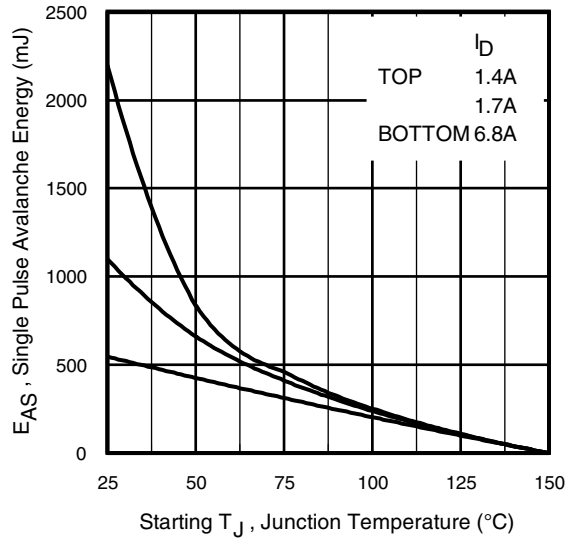

Fig 14. Maximum Avalanche Energy vs. Drain Current
- ② Starting $T_J = 25^\circ\text{C}$, $L = 24\text{mH}$, $R_G = 25\Omega$, $I_{AS} = 6.8A$, (See Figure 14).
- ③ $I_{SD} \leq 6.8$, $di/dt \leq 650A/\mu s$, $V_{DD} \leq V_{(BR)DSS}$, $dv/dt = 24V/ns$, $T_J \leq 150^\circ\text{C}$.
- ④ Pulse width $\leq 300\mu s$; duty cycle $\leq 2\%$.
- ⑤ $C_{oss \text{ eff.}}$ is a fixed capacitance that gives the same charging time as C_{oss} while V_{DS} is rising from 0 to 80% V_{DSS} .